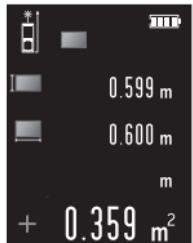

Fig. 2
Step2 – Short press button , and repeat the area measurement movement to get a second result of area as Fig2